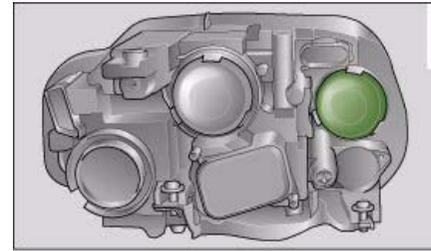

Fig. 290 Headlight unit: Rubber cap is highlighted
- Take off the rubber cap ⇒ fig. 290 ⇒ ⚠ in "Changing bulbs" on *page 304*.